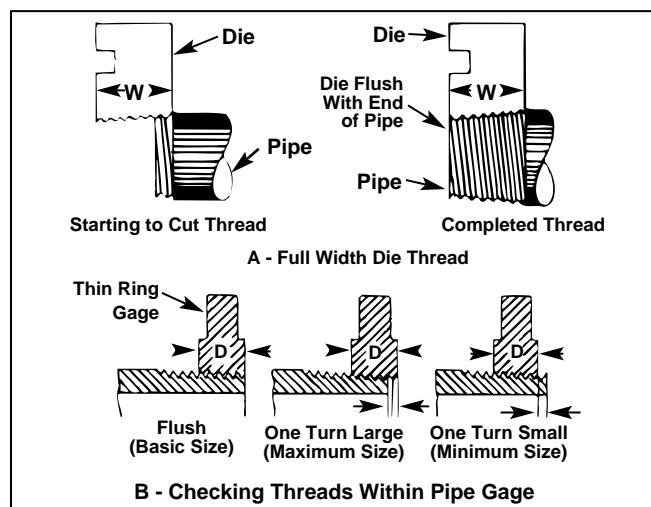

Figure 12 – Checking Thread Length
(*Figure 12*)
1. Thread is cut to proper length when end of pipe is flush with edge of dies (*Figure 12*).
2. Die head is adjustable to obtain proper thread diameter. If possible, threads should be checked with a thread ring gage (*Figure 12*). A proper thread is cut when end of pipe is plus or minus one turn of being flush with face of ring gage.